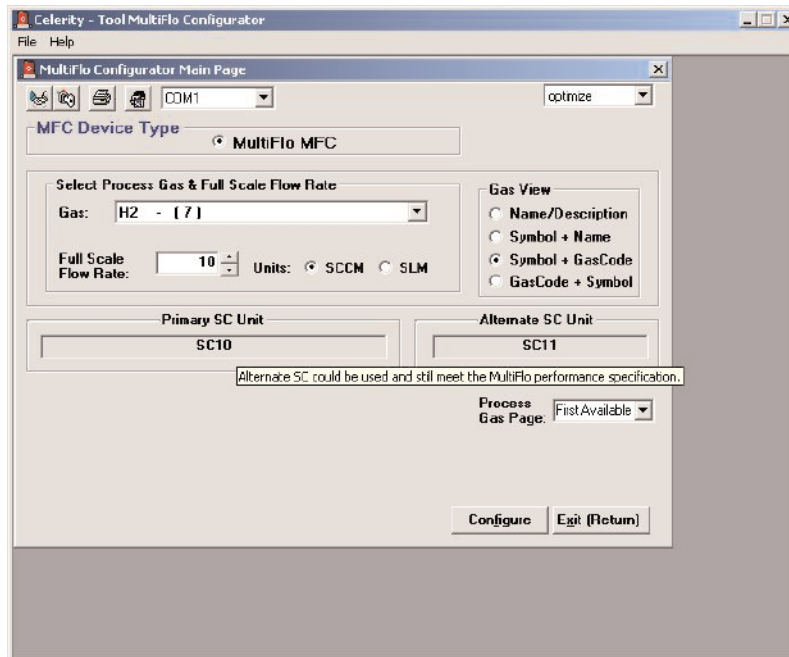

Figure 4.7 Sample screen view where an alternate bin is available for a single gas and range.
- Click the <Configure> button. The software will automatically configure the SC while displaying a status screen (Fig. 4.7) showing the progress of the automatic configuration.
A feature of the MultiFlo Configurator alerts the user to crossovers between SC configurations where a SC bin higher or lower could also be used for the gas and range specified. (Fig. 4.7) It is recommended that the primary SC bin be selected/used when possible for optimal performance.